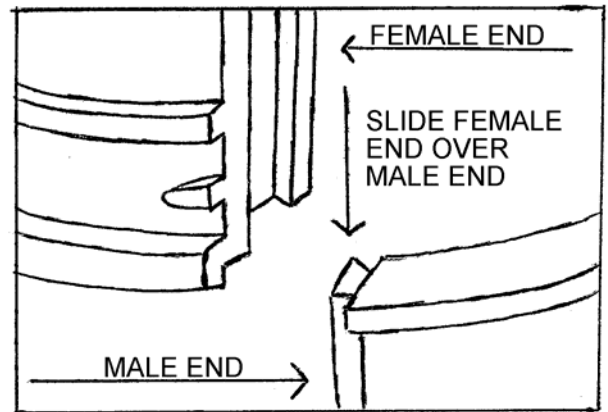

Figure 3.2
2. Place female dovetail end of one section over male dovetail end of another section (refer to Figure 3.2). Slide together while keeping mating surfaces as close as possible until hand-tight. It may be necessary to finish assembly with a hammer to make flush with adjoining section. Assembling risers on a flat hard surface will make the task easier to accomplish.